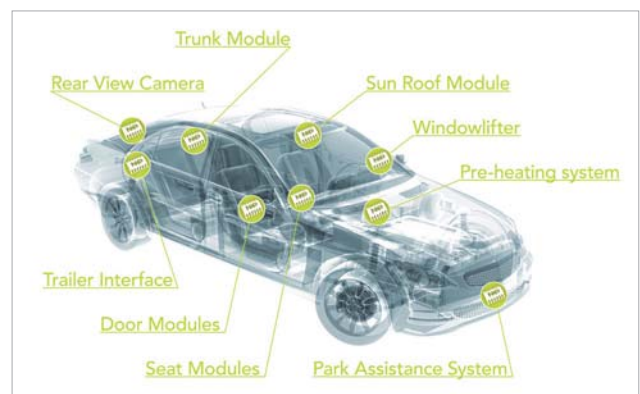

Figure 1: Units that can be temporarily switched off to save energy
For all types of vehicles (conventional with combustion, electric, and hybrid engines), energy savings are important but driven by different aspects. In the conventional car, reductions in CO₂ emissions can be managed by reducing standby power through switching off electronic-control units not in use, which has environmental and tax advantages. Figure 1 shows optional units for this. However, in the electrical vehicles (EV) the operation range is increased by the efficient implementation of its energy management system. This controls the energy flow in the typical system states of the EV (driving, charging, and parked) and state transition.
The use of PN in conventional cars is typically seen with comfort modules (functions) that can be switched off in many driving situations (see Figure 1). Moreover, PN also allows functions to be kept available when the ignition of the conventional car is turned off without draining the battery with unnecessary standby currents. Ease of implementation, robustness, and the associated costs are the major aspects to the successful introduction of the PN function in any types of cars.